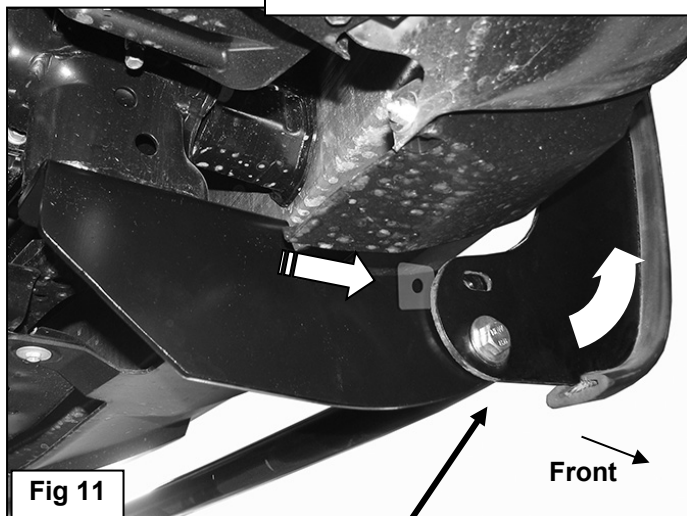

Fig 11
13. Insert (1) 12mm Plastic Washer between the Mounting Bracket and the Grille Guard. Line up the Grille Guard, Washer and Bracket and bolt together with the included (1) 12mm x 35mm Hex Bolt, (1) 12mm Lock Washer and (1) 12mm Flat Washer, **(Figure 11)**.
15. Use the (2) previously installed 12mm Hex Bolts as a hinge. With assistance, carefully rotate the Grille Guard up to the vehicle, **(Figure 11)**. Line up the two remaining holes in the Mounting Brackets with the holes in the Grille Guard. Repeat **Steps 13 & 14** to attach the Grille Guard to the Brackets, **(Figure 12)**. Snug but do not tighten hardware at this time.